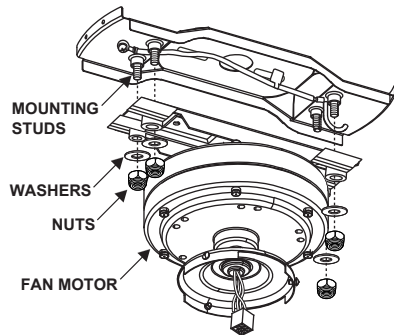

Fig. 9
Step 1. Move fan into position over the four mounting studs and secure with the provided washers and nuts. (Fig. 9)
Step 2. Remove two of the four mounting bracket screws from the mounting bracket and loosen the other two screws. (Do not remove.) (Fig. 9)